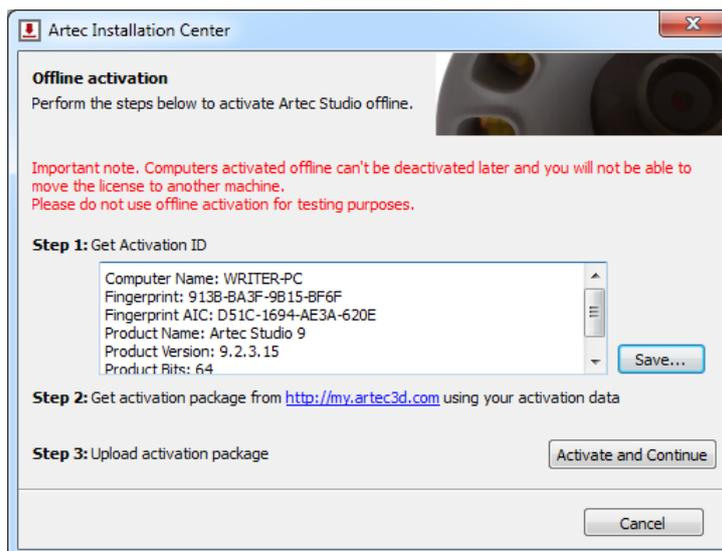

Figure 21: Offline-activation window
3. In the offline-activation dialog (**Figure 21**), click *Save...* and save generated Activation ID file to a flash drive or other storage medium.